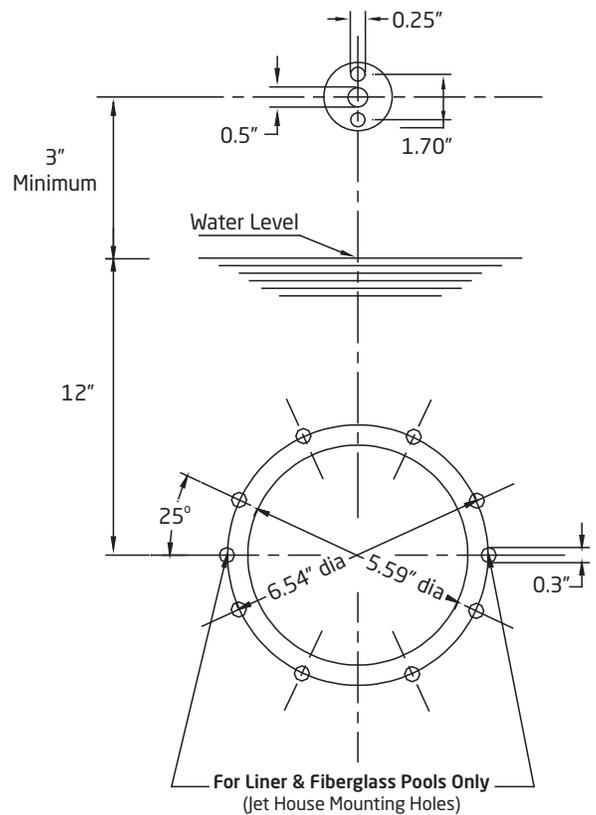

Figure 15
1. Using the clamping ring (part #3) as a template, drill holes in the pool wall for installation. The center line of the clamping ring should be 12" **BELOW** the water level (See Figures 15 & 16). Two additional holes will need to be drilled at the 3 and 9 o'clock positions for installation of the jet housing (part #7). The four brass inserts in the clamping ring should be at the 2, 4, 8 and 10 o'clock positions (See Figure 15).
2. Mount the housing (part #7) and one clamping ring gasket (part #12) on **BEHIND** the pool wall using two (2) #14 x 1" counter sunk screws (part #27). Install the screws from the inside of the pool wall through the holes drilled at 3 and 9 o'clock positions. (See Figure 15)
3. Install the clamping ring (part #3) and a second clamping ring gasket (part #12) in **FRONT** of the pool wall using eight (8) M6 screws (part # 9/2, 9/3, or 9/4). Screw lengths vary depending on the installation. *NOTE: A good RTV silicone may be used with the gasket when mounting the jet housing, but in most cases is not necessary. Installer should decided whether or not the silicone is necessary.*
4. For the air regulator assembly, one 1/2" hole must be provided, preferably along the vertical axis, approximately 3-4" **ABOVE** the water line. (See Figures 15 & 16). Using the 60 x 11 x 2mm air regulator gasket (part #21), mark and drill two 1/4" mounting holes (See Figure 15). Use the two (2) 1/4 - 20 air holder screws (part #18) and two 1/4-20 air holder nuts (part #19) to mount the air regulator holder.
For Steel Walled Pools: An optional butterfly gasket (part #12.1) maybe purchased to replace the two (2) clamping ring gaskets (part #12). Increase the jet housing hole in Figure 15 from 5.59" to 5.75" for installation.